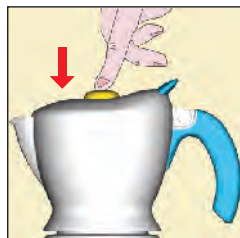

Fig. 11
### 4 Figure 11
**Make sure that the safety ring (A1) is pushed down**, close the lid and **press the button** of the aerator. Fig. 11